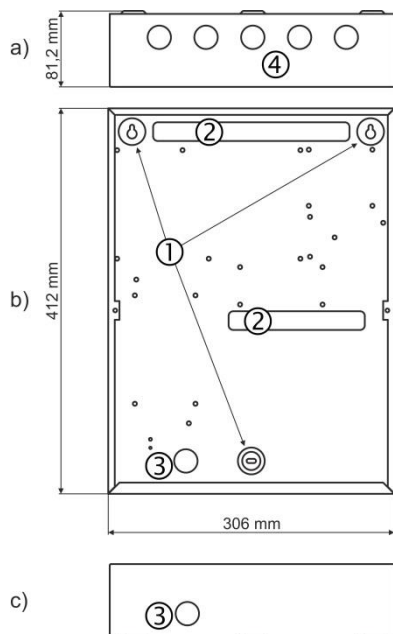

Figure 4 – Elements of the metal bottom:
- Choose inlets for the main power supply cable, loops, sounders, control devices, etc. Remove the metal cap element just from those holes for cable running (Figure 4).